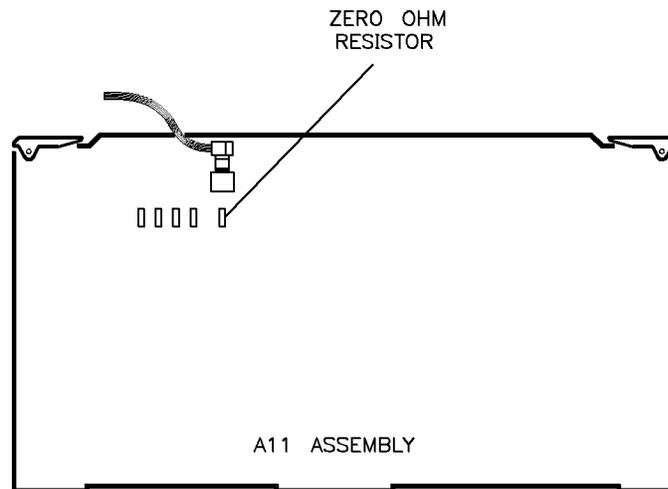

Figure 3-37. FM Input Impedance Jumper Locations
4. Locate the zero ohm resistor shown in Figure 3-37. The FM input impedance is factory-set to the 50 ohm position. To change it to 600 ohms, remove the resistor from the A11 assembly by unsoldering it. The FM input impedance can be reset to 50 ohms by soldering the resistor back into the A11 assembly.